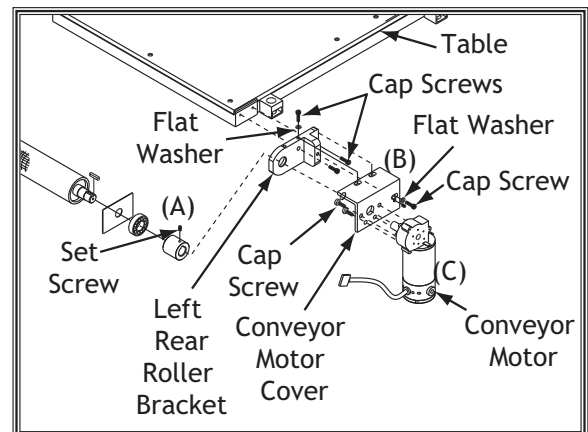

Figure 3. Removing conveyor motor and rear roller bracket (not all components shown for clarity).
19. (A) Remove the set screw shown in **Figure 3**, (B) remove the conveyor motor cover from the left rear roller bracket (3 cap screws and 3 flat washers), then (C) remove the conveyor motor (4 cap screws) from the conveyor motor cover (**Figure 3**).